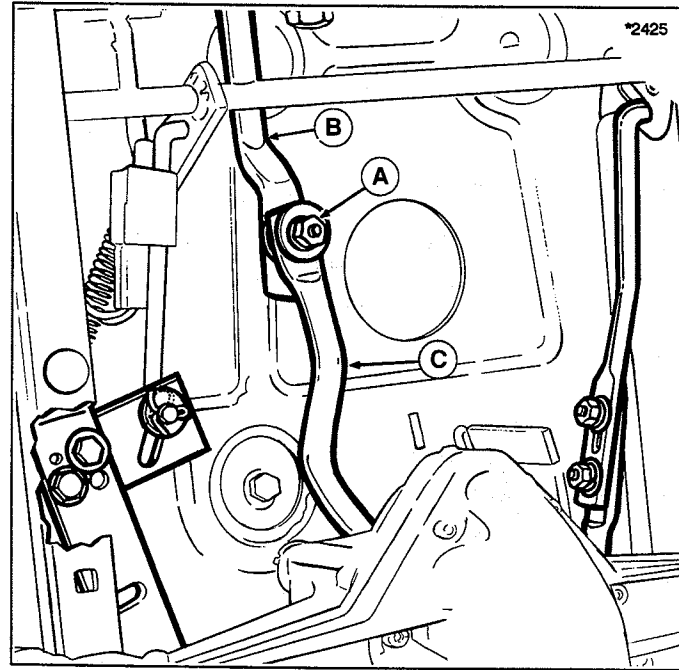

Figure 29. Neutral Adjustment (Hydro Models)
3. Loosen the nut (A, figure 29) that secures the front hydro control rod (B) to the rear rod (C). Control rod must be free to move. If performing the return-to-neutral adjustment, loosen the two nuts (A, figure 30) that secure the front return-to-neutral rod (B) to the rear rod (C). Front return-to-neutral rod must be free to move.
5. Tighten the nut (A) securely to 17 ft. lbs.
Perform the following adjustment if the shift lever does not return to the neutral gate when the clutch/brake pedal is fully depressed. Make sure the front hydro control rod (B, figure 29) is lubricated and does not bind in the carrier frame hole.